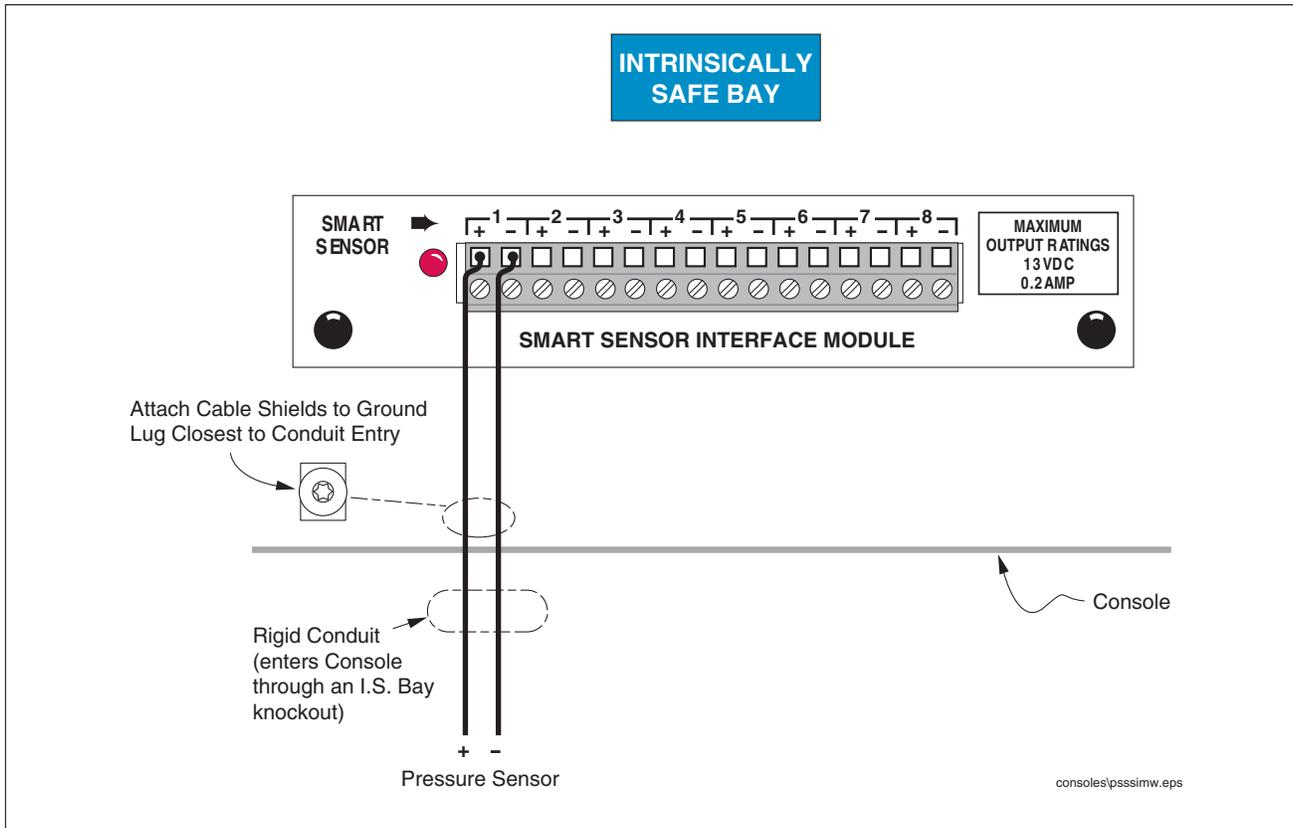

Figure 17-5. Connecting Pressure Sensor to TLS-3XX Smart Sensor Interface Module
14. Terminate field wiring into TLS Console and connect to Smart Sensor Module (TLS-3XX - Figure 17-5). Note: observe polarity! The cable length between the console and sensor must not exceed the distance stated in the TLS-3XX Site Prep manual (P/N 576013-879).